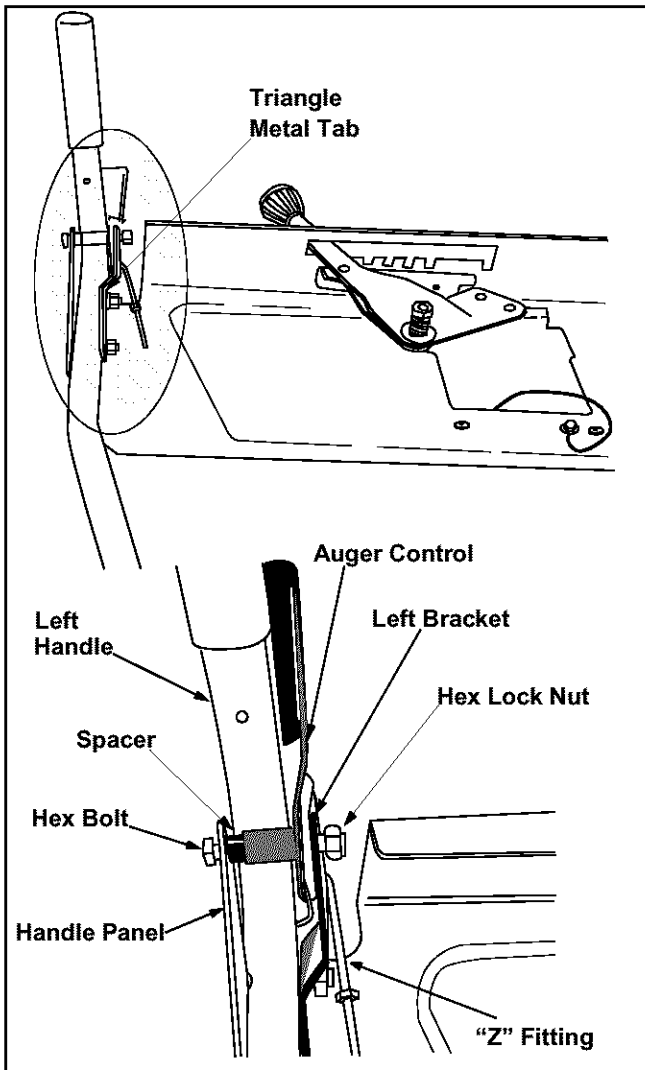

Figure 4
- Place the auger control on top of the left handle. The triangular metal tab must be between the handle and the bracket. See Figure 4.